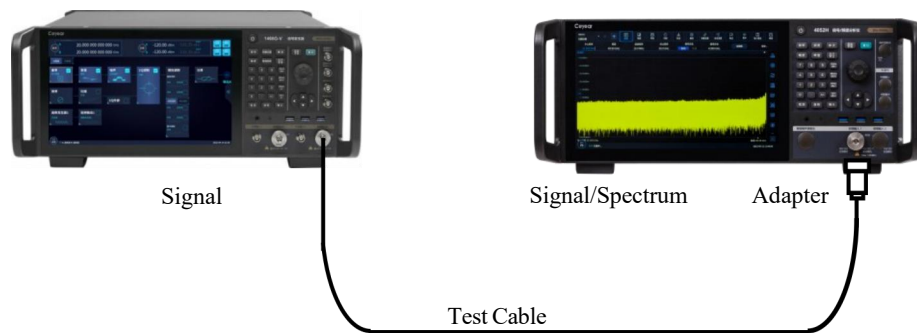

Figure 4.10 Connection setting of occupied bandwidth measurement
**Step 2. Connect the RF output port of the signal source to the RF input port of the analyzer, as shown in Figure 4.10:**